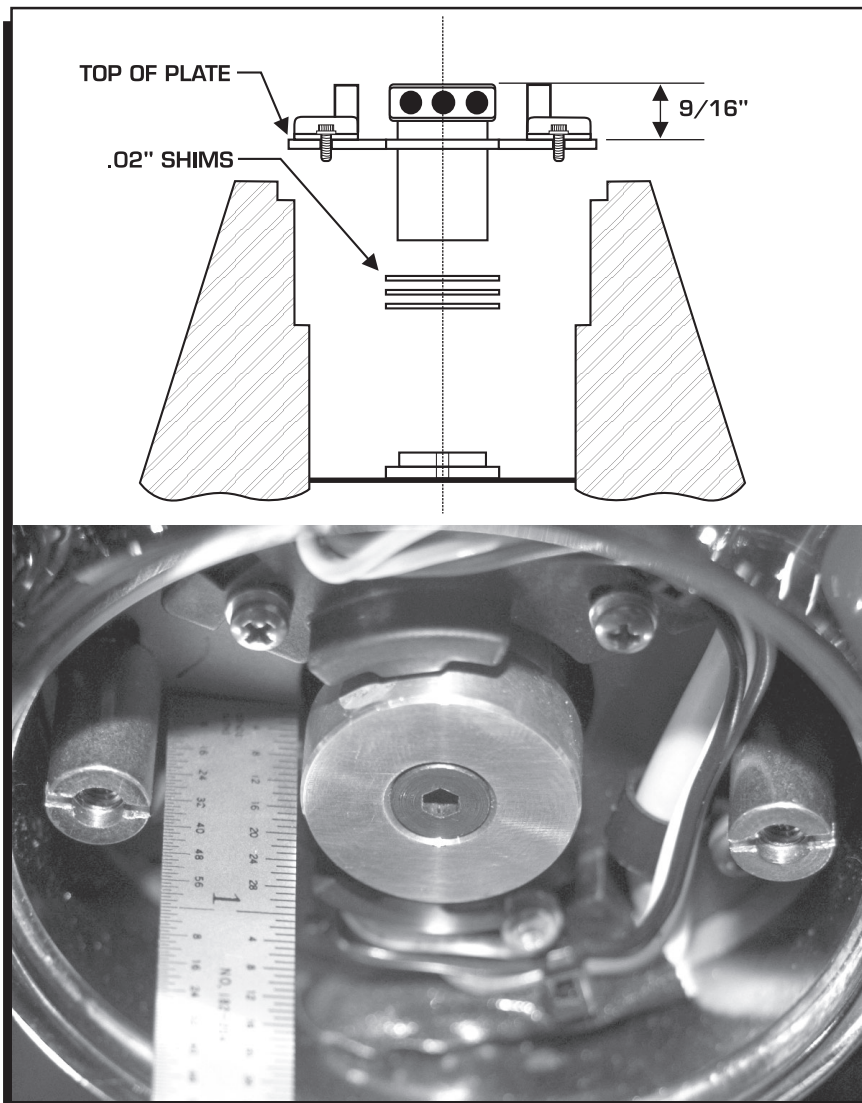

Figure 5 Checking Rotor Height.
5. Check the distance from the outer surface of the pickup plate to the end of the installed rotor (Figure 5). If necessary, add shims until the measured rotor height is $9/16$ -inch (+/- $1/32$ -inch).